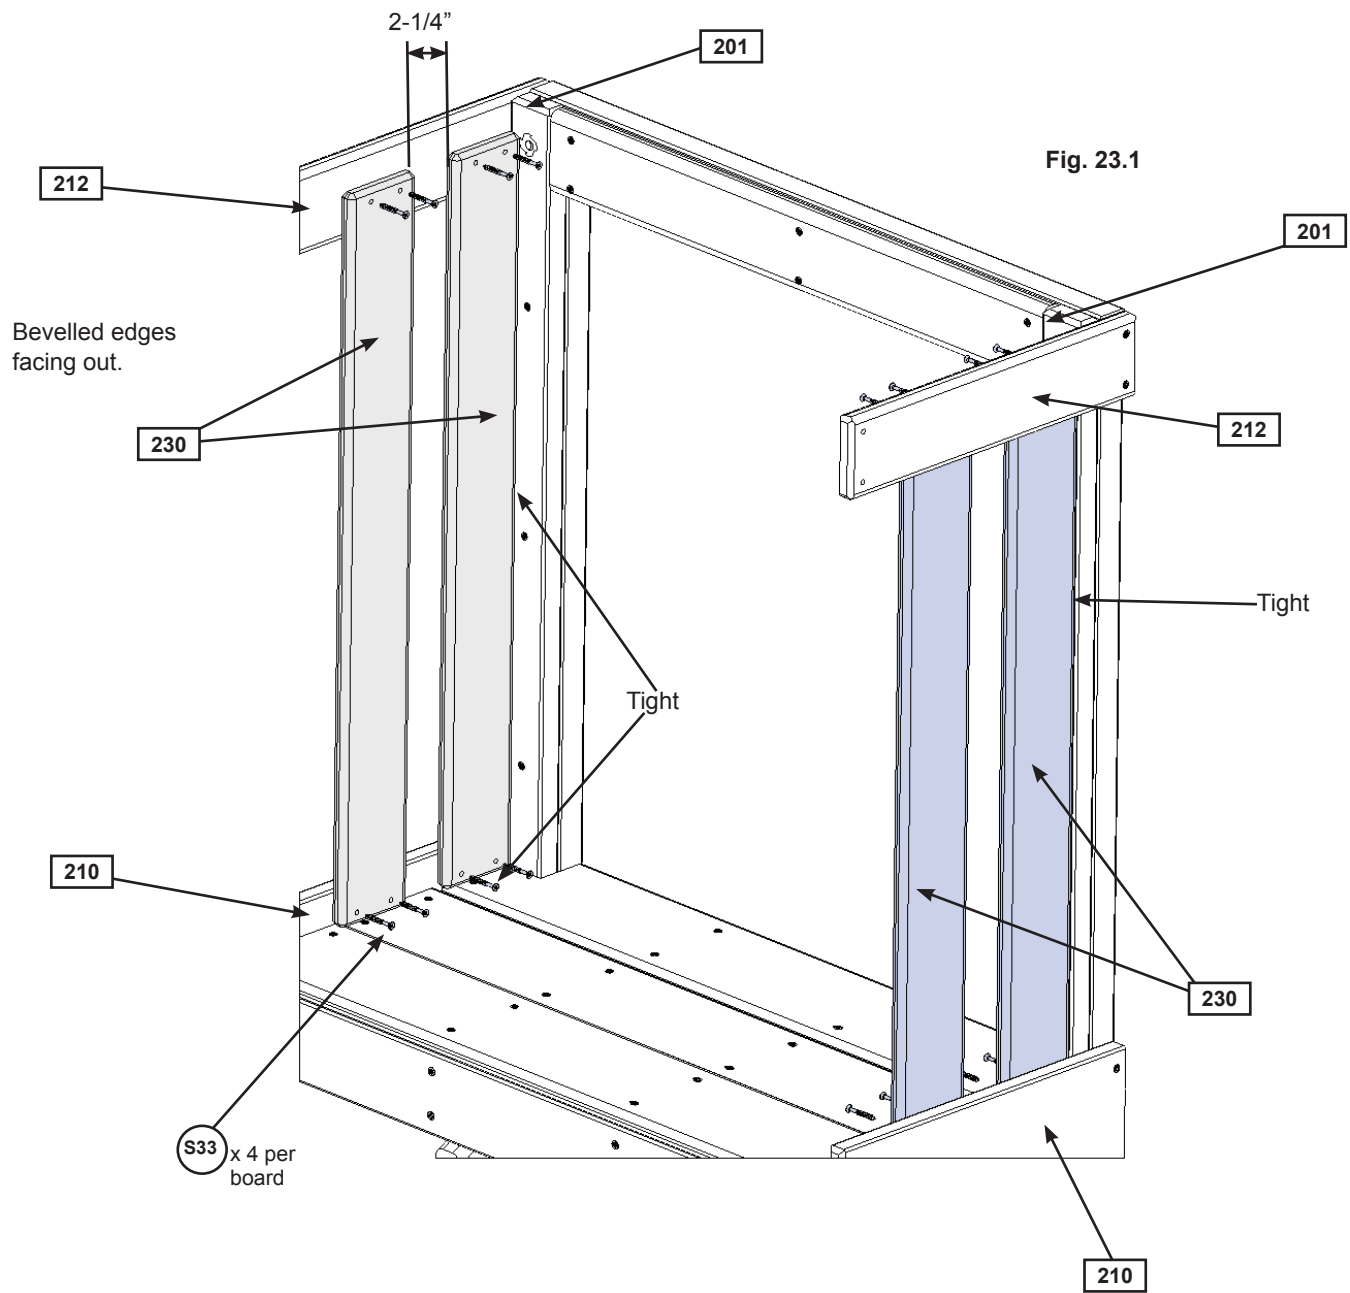

Fig. 23.1
**A:** Tight to each (201) Upright Crowsnest and tight to the floor and gap boards attach 1 (230) Cedar Wall to each (210) Crowsnest Bottom Side and (212) Crowsnest Side with 4 (S33) #8 x 1" Wood Screws per board. (fig. 23.1)
**B:** Measure 2-1/4" from each (230) Cedar Wall then attach another (230) Cedar Wall per side, tight to the floor and gap boards using 4 (S33) #8 x 1" Wood Screws per board. (fig. 23.1)